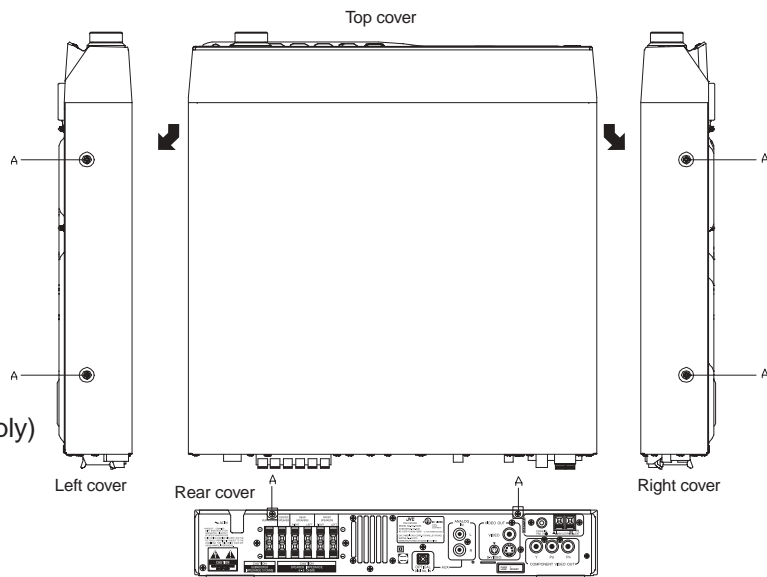

Fig.1
■ Removing the cabinet top (See Fig.1)